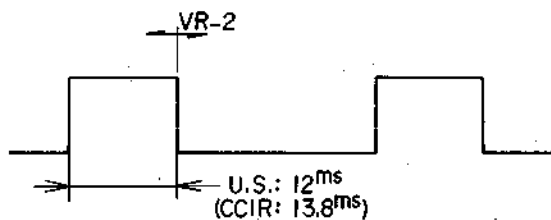

Fig. 5
- (3) Connect Oscilloscope to Test Point TP-2. Adjust VR-2 (50 kΩB) to obtain waveform as shown in Fig. 5.